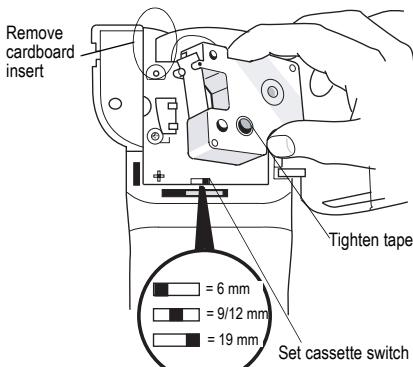

Figure 4
The first time you use the printer, remove the protective cardboard insert from between the print head and pinch roller. See Figure 4.
2. Set the cassette switch for the size of the tape cassette that you are inserting. See Figure 4. A notch in the cassette fits over the switch when the cassette is in the correct position.